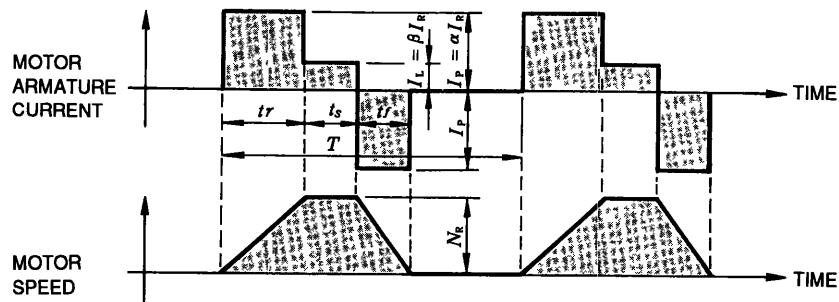

Fig. 4.3 Timing Chart of Motor Armature Current and Speed
- When the motor repeats rated speed operation and being at standstill (Fig. 4.3)